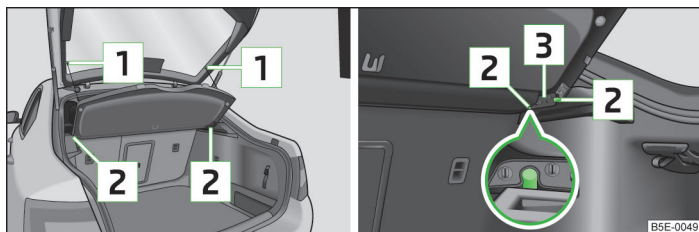

Fig. 84 Removing/installing the luggage compartment cover
- Unhook the support straps  » Fig. 84.
- The mounts of the cover  » Fig. 84 must be positioned above the holders  of the side trim panel.
- The mounts of the cover  » Fig. 84 must be interlocked in the holders of the side trim panel .